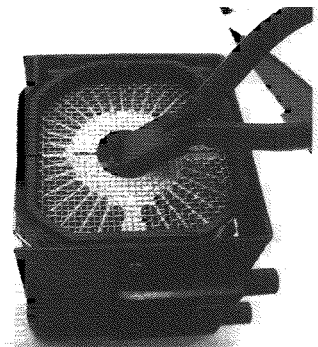

Fig. 2
2. Set wire cutters in place to cut the bead, but do not cut yet (Fig. 2).